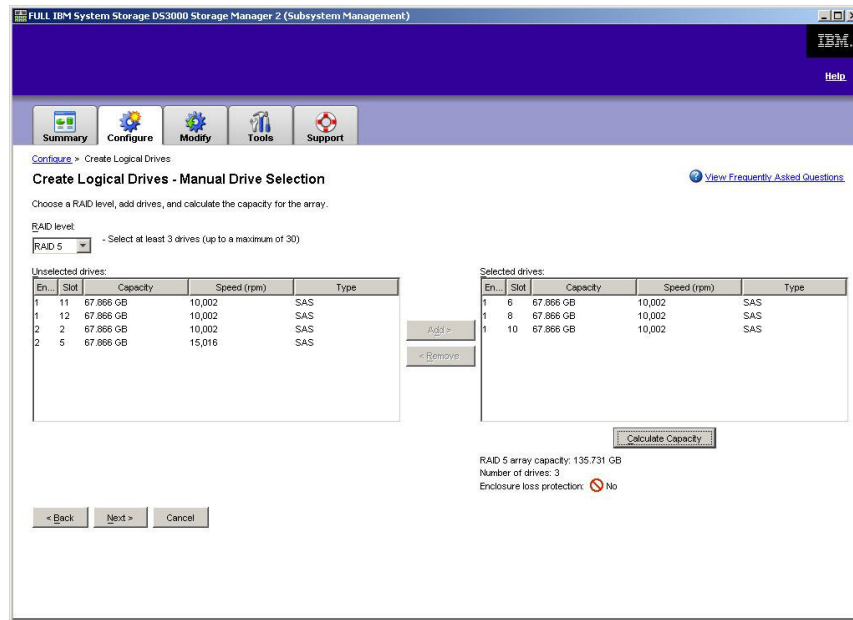

Figure 15. Manual drive selection area
8. When the **Manual Drive Selection** area is displayed, as shown in Figure 15 on page 87, select the RAID level. Select the drives from the **Unselected drives** area and click **Add** to move the drives to the **Selected drives** area. In the **Selected drives** area, click **Calculate Capacity**, and then click **Next**.